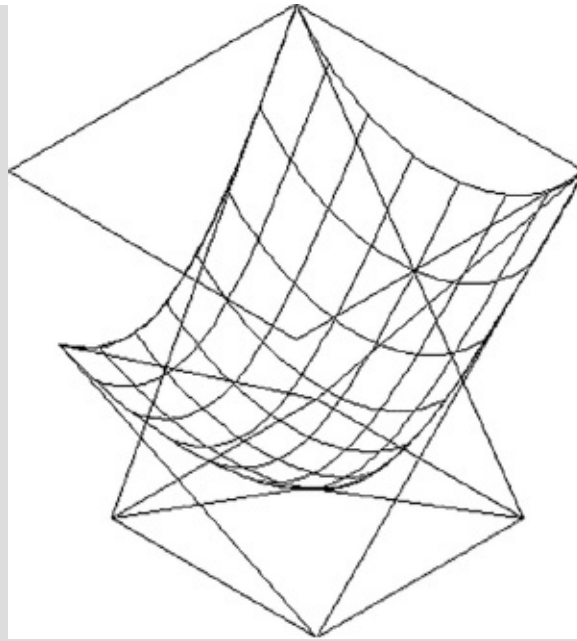

FIGURE 21.35 The butterfly chair with a mesh seat
5. At the **Select guide profiles** or **[Join multiple edges]:** prompt, select the two polylines on the sides of the layout, and then press **↵** to complete your selection. Your chair begins to take form, as shown in Figure 21.35.